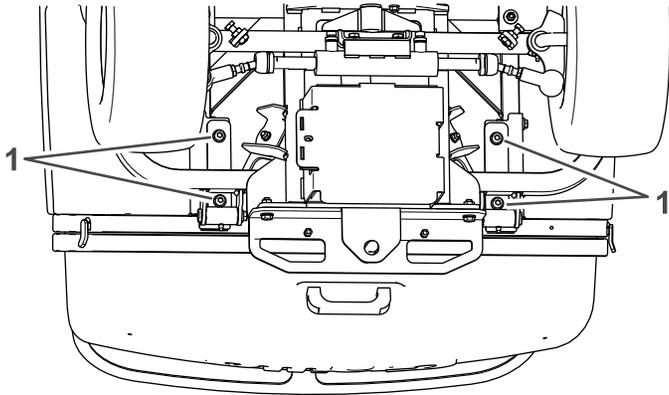

Figure 108
1. Loosen the 4 bolts that secure the hopper lift supports to the frame under the hopper (Figure 108).
4. Tighten the 4 bolts (Figure 108).